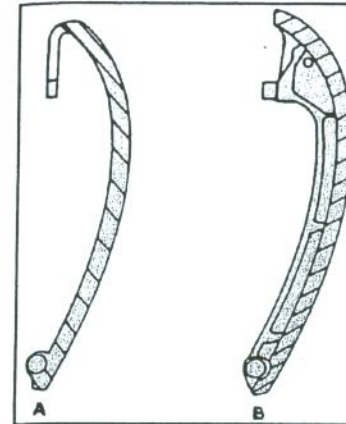
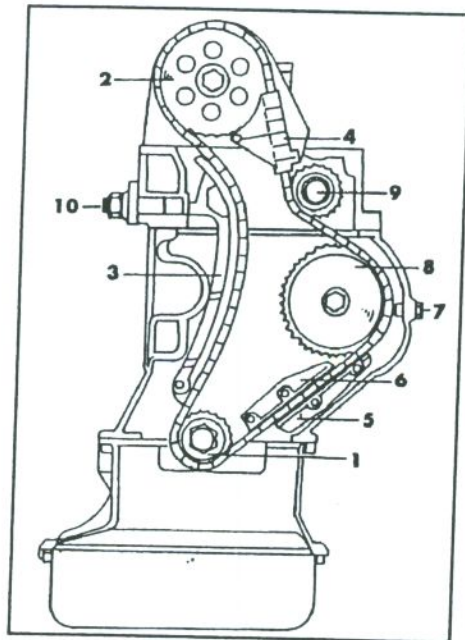
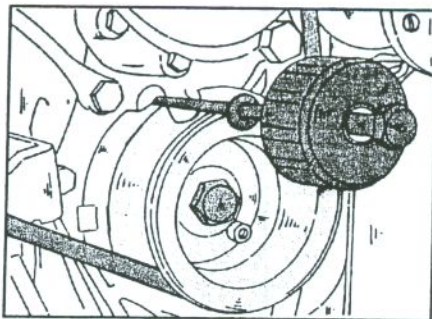

Fig. 9.21 – View of the tensioning rail. "A" shows the earlier version, "B" the later version.
Fig. 9.22 - View of the timing mechanism.
Fig. 9.24 – Removal of the bearing bolt for the tensioning rail, using an impact hammer and a threaded adaptor.
- Depending on the shape of the tensioning rail, treat the chain tensioner as follows: If the tensioning rail has the shape "A" in Fig. 9.21, remove the chain tensioner completely; if the tensioning rail has the shape "B", slacken the thrust bolt of the chain tensioner. Section 9.2.2 gives further details of these operations.
Refit the chain tensioner as follows. Fig. 9.22 shows where the tensioner is located, together with other parts of the timing mechanism:
Fig. 9.22 shows the Arrangement of the timing chain. The following operations can be carried out by referring to this illustration. Note the following points before commencing any operation:
The location of the tensioning rail can be taken from Fig. 9.22. As already mentioned, one of two types of tensioning rails can be fitted. The second tensioning rail "B" in Fig. 9.21 can be used in place of the older type, if the rail is replaced. The new tensioning rails are marked to prevent interchanging them between a 4-cylinder and 5-cylinder engine. The rail for the engine fitted is not drilled at the top, as can be seen in Fig. 9.21, view "B". It is also wider.
- If the engine is fitted with the later-type tensioning rail (view "B", Fig. 9.21), push back the thrust bolt of the chain tensioner.
- Fit the slide hammer with a suitable threaded adaptor into the end of the bearing bolt and withdraw the bearing bolt by hitting the weight of the slide hammer against its stop (Fig. 9.24). Remove the tensioning rail towards the top.
The position of the slide rails is shown in Fig. 9.22. To remove a slide rail, a slide hammer with a suitable, threaded adaptor is required, to remove the bearing bolts. The bolt is screwed into the end of the bearing bolt and the impact hammer (slide hammer) attached to the end of the bolt (Fig. 9.24). Provided that these tools can be obtained, the rails can be removed as described below. Remove the slide rail (4) in Fig. 9.22 as follows:
- withdraw the slide rail towards the top, after the bearing bolt, has once more been withdrawn with the slide hammer, similar as shown in Fig. 9.24.
Replace the slide rail (6) in Fig. 9.22 as follows:
Replace the slide rail (5) in Fig. 9.22 as follows: